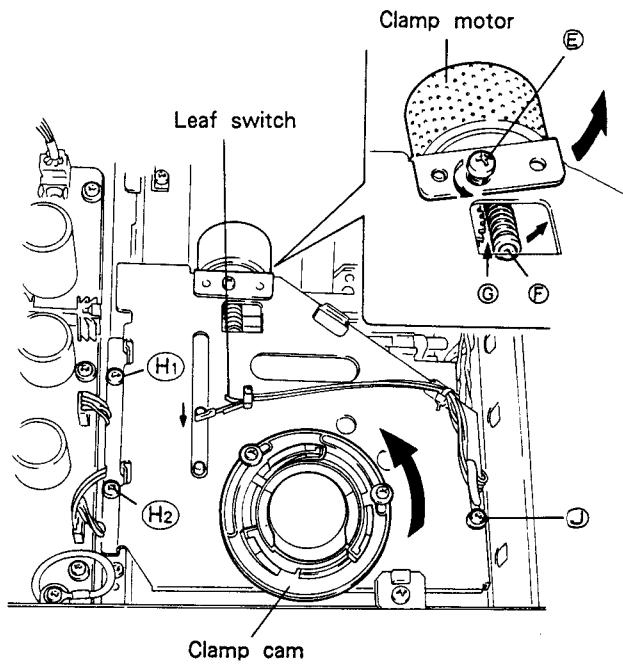

Fig. 2-2.
2. Taking care not to drop the iron ball of the tip of the gear section of the clamp motor as shown in Fig. 2-2, keep the engaging section **G** of gear apart from the unit by tilting the clamp motor in the direction of arrow.
2. Remove by turning over the clamp mechanism assembly. (Screws H_1 , H_2 and J . Refer to Fig. 2-2.)